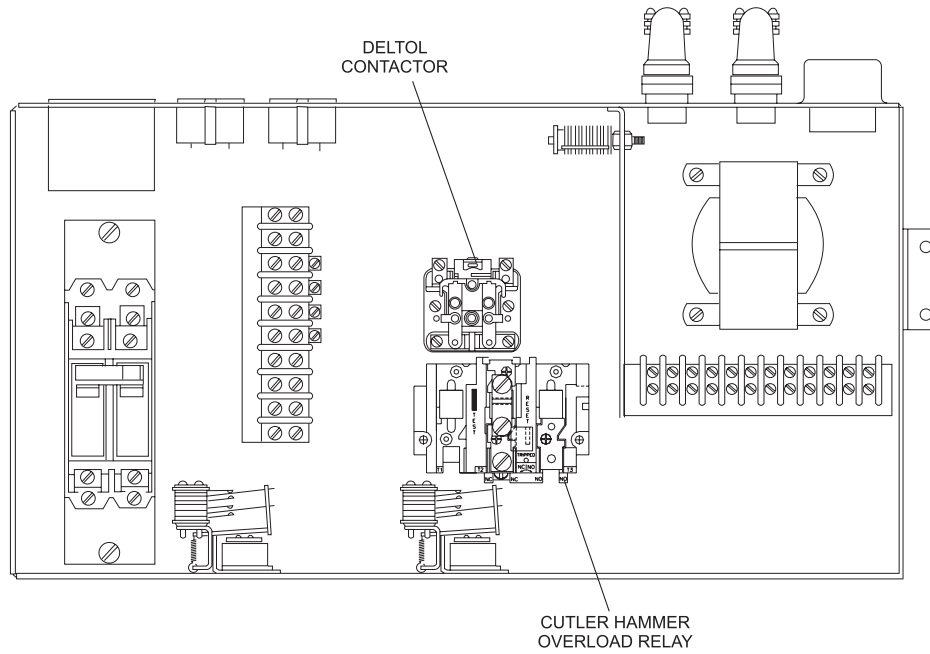

Figure 3
11. Reinstall “Deltrol” contactor using holes “C”. Refer to *Figure 3*.
12. Mount the “Cutler Hammer” overload relay using existing hardware. Refer to *Figure 3* for correct position (use holes “D”).